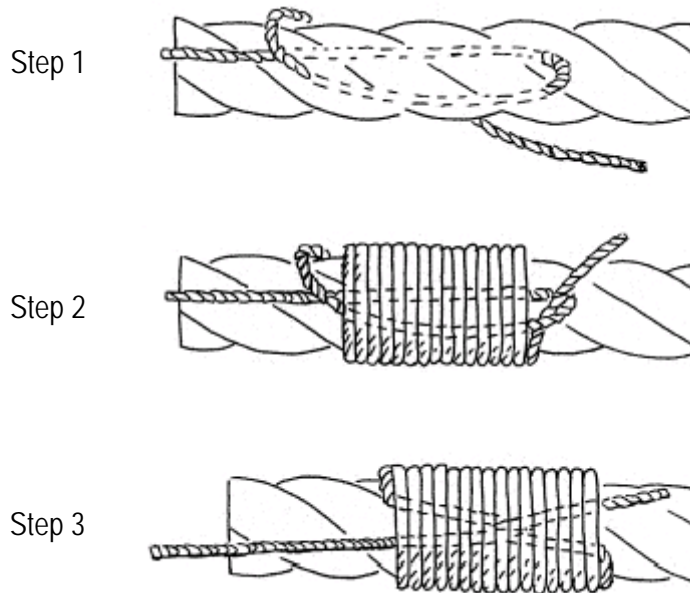

Figure 2.3: American Plain Whipping.
2. American Plain Whipping (Figure 2.3).